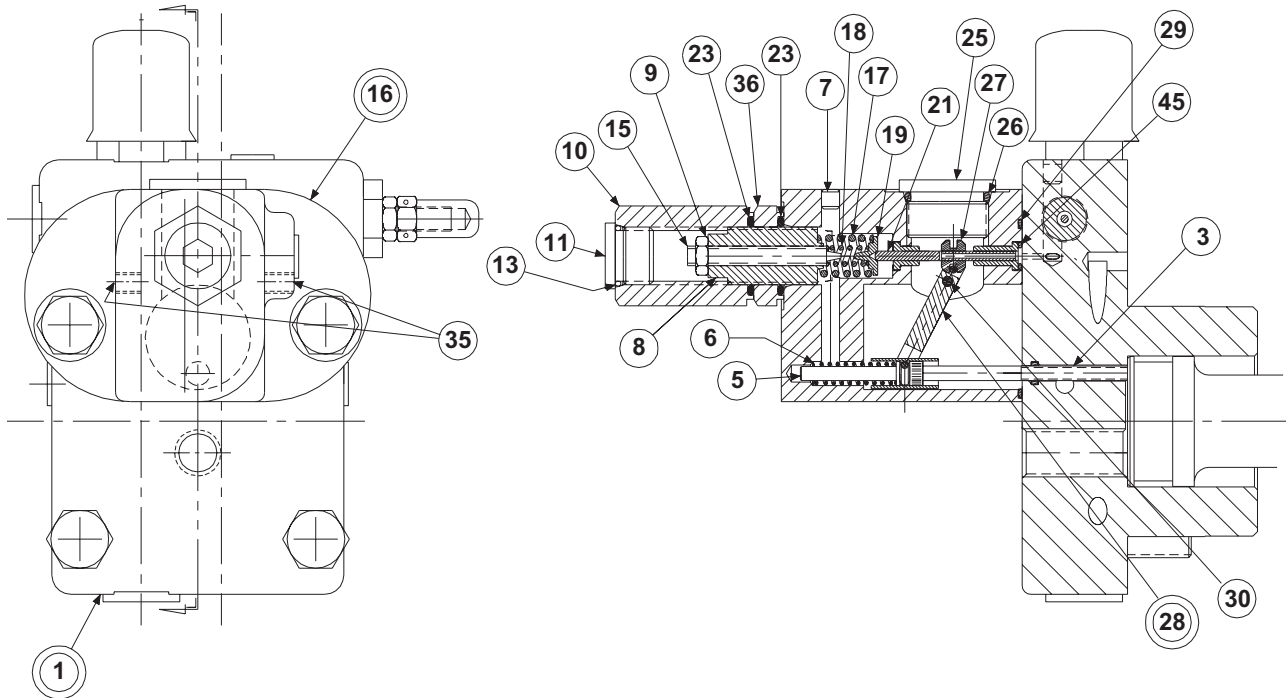

FIGURE 11
PARTS LIST FOR FIGURE 11
1. See Figure 11. Remove 2 screws holding torque limiter body (16) to cap assembly (1).
2. Remove all parts from torque limiter body (16) except pin (30) and arm assembly (28). It is not necessary to remove these parts unless broken or worn. Examine parts for wear or damage.
3. Remove screw (3). Examine head for excessive wear, and body for smooth sealing surface with O-ring.
5. Remove cap assembly (1).
2. Press seat (10) into bore squarely against shoulder in bore.
3. Install spool (18) into bore as shown. Install spring (11) over end of spool. Install O-ring (6) on seal piston (16). Lubricate and install into plug (15). Install plug (15) into cap. Install screw (3), nut (4) and acorn nut (17). Install plug (12), (21) and (28). Torque plugs.
4. Install O-ring (6) on seal piston (5). Lubricate O-ring and install cone (8), spring (7) and seal piston (5) into bore in cap (1), being careful that cone enters seat (10). Install adjusting plug (2), screw (25), nut (4) and acorn nut (26).
5. Carefully install O-ring (27) in the cap.
8. See Figure 11. Apply thread locking compound on threads of screw (3), lubricate the shank, thread through the cap into the control piston, and torque to 5 lb.*ft., 6,8 Nm
10. Press dowel (30) into body (16), through the link assembly (28), to 1/4", 6,35 mm below surface. Apply hydraulic sealant to threads of screws (35) and install over dowel (30).
11. While sleeve (27) is engaged into dowel on link (28), slide spool (21) into bore of body (16), and through sleeve (27). Spool (21) must move freely and easily at all positions of the link (28).
12. Assemble remaining parts per drawing. While spring retainer is engaging clevis pin (5) under dowel of link (28), slide the other opening of spring retainer over the top of the screw (3). Attach body assembly (16) to cap (1) and torque screws to 75 lb.*ft., 102 Nm.